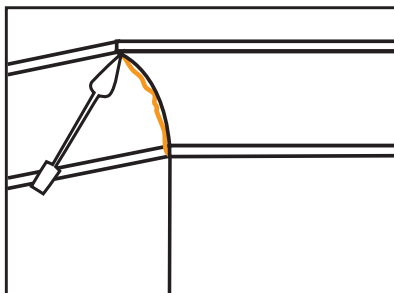

FIGURE 15 Mitres
- Straight stop along cornice edge at wall and ceiling. Finish mitres using a small cornice tool [Figure 15]